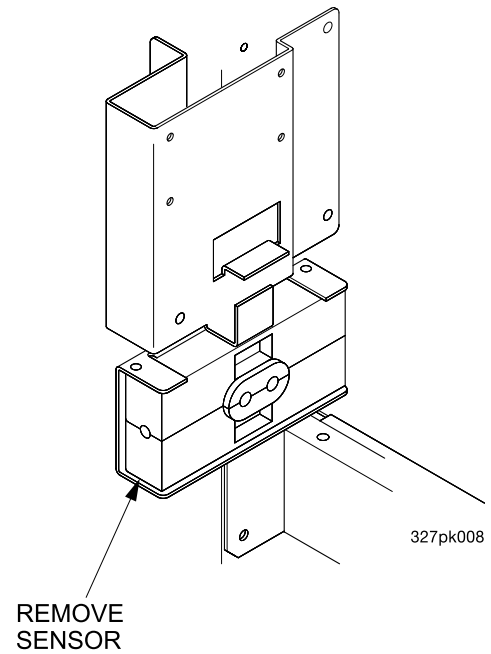

Figure 1
3. Remove the existing sensor mug brackets (see Figure 1).